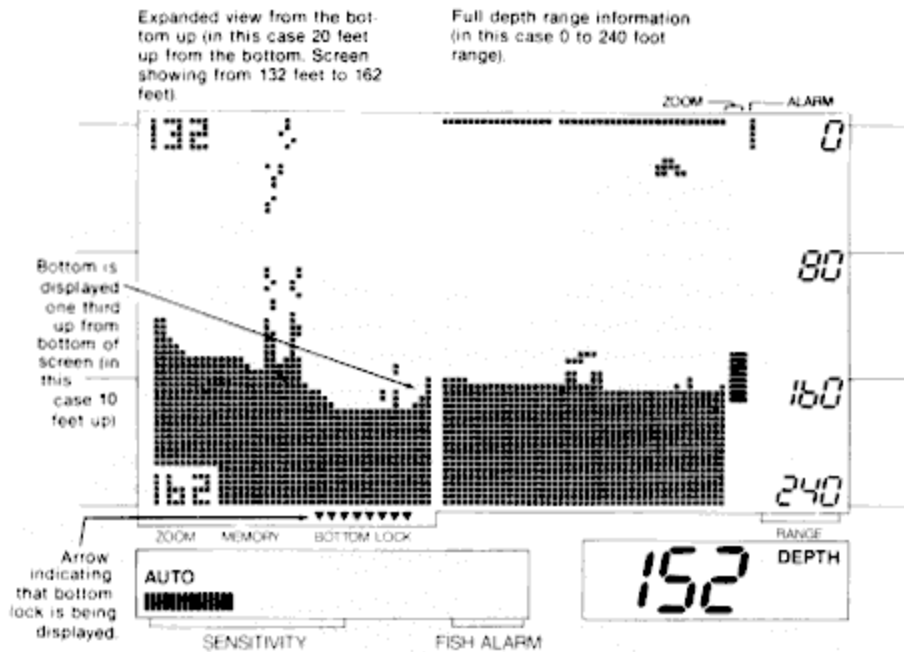

Figure 19
**Bottom Lock:** - Bottom Lock can be turned on only when the LCR is in the automatic mode and zoom is off. To activate bottom lock, hold down the Zoom/Bottom Lock button for 1 to 2 seconds (the key panel has a "Dash" by the BL symbol indicating that you must hold down to activate bottom lock). When bottom lock is activated the screen will automatically split to show the full depth scale information on the right and an expanded view from the bottom up on the left. Just above the word Bottom Lock on the left side of the display will appear a group of arrows indicating that Bottom Lock is on. (See Figure 19).